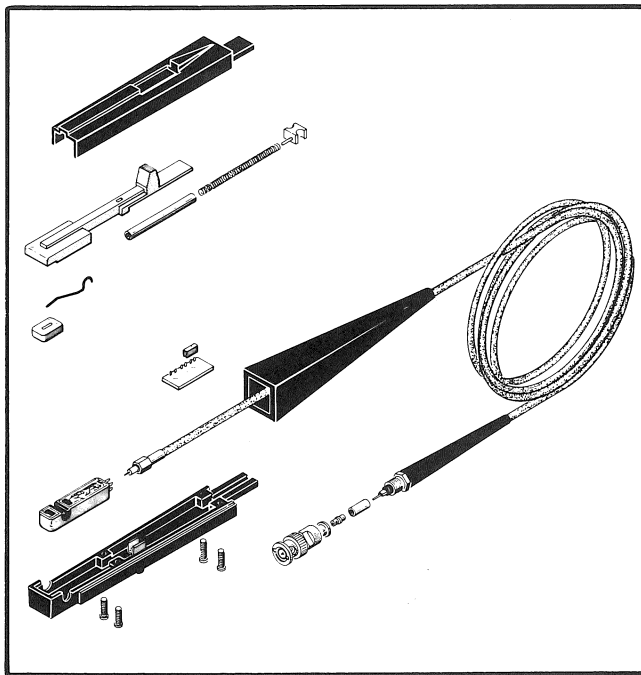

Fig. 5-2. Disassembled P6019 Probe.
5. Remove the cable, switch, and transformer assembly from the other half of the probe body. The P6019 Probe is shown disassembled in Fig. 5-2.